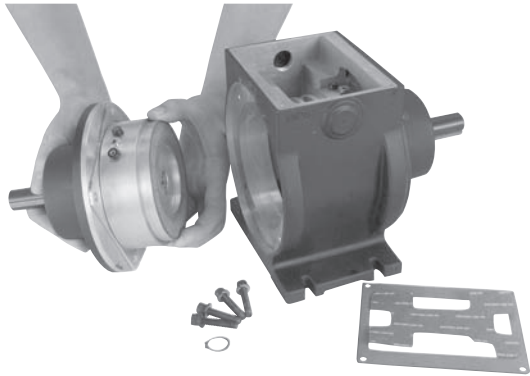

Figure 5
- Remove the retainer ring holding the rotor on the output shaft. Then remove the rotor and replace it with a new one. Replace the retainer ring. (Figure 5)